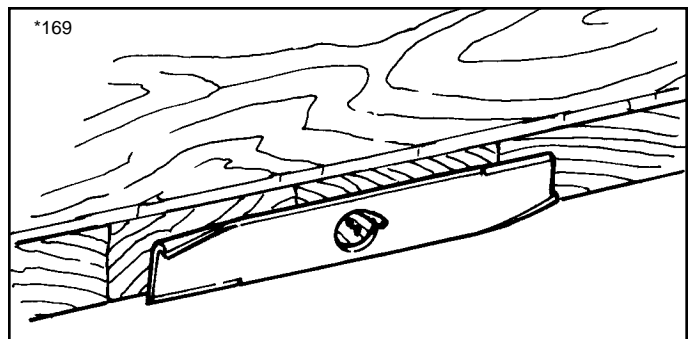

Figure 21 Balancing The Blade
- Balance the blade as shown in figure 21. Center the blade's hole on a nail lubricated with a drop of oil. A balanced blade will remain level.